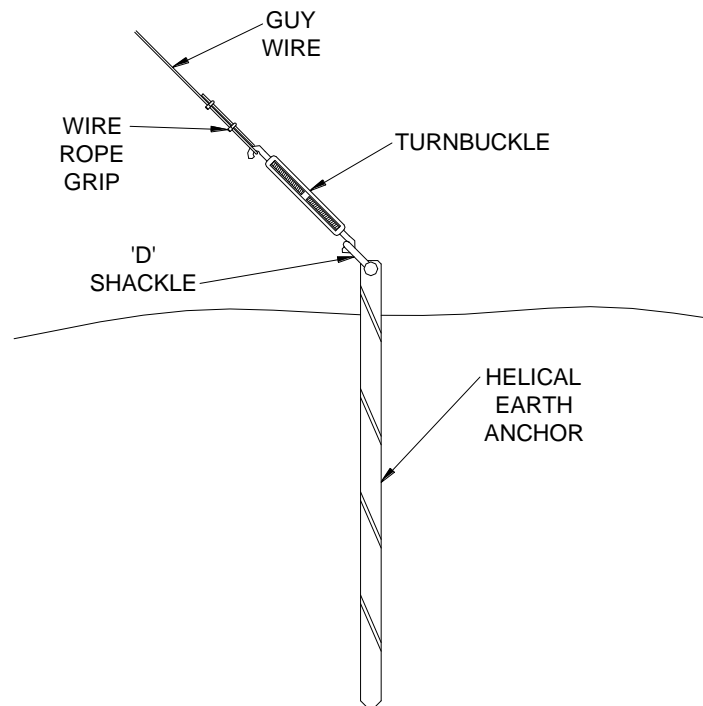

Fig 7: Prepare the guy fittings on the ground end of the guy wires
11. **Make ready the guy wire fixings for the earth anchors** - Prepare the fittings on the earth anchor side of the guy wires. Follow the arrangement shown in Fig 7. Allow a minimum 300mm overlap and always use at least two wire rope grips at each looped end of the wire.